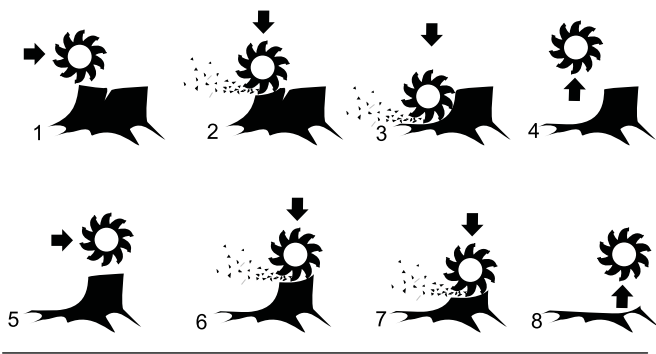

Figure 12
7. Swing the cutting wheel to one side, then lower it approximately 1/2 inch to 1 inch into the front-top corner of the stump. Swing the cutting wheel back and forth, lowering the cutting wheel approximately 1/2 inch to 1 inch before each sweep, until you have ground the front portion of the stump to ground level (Figure 12).